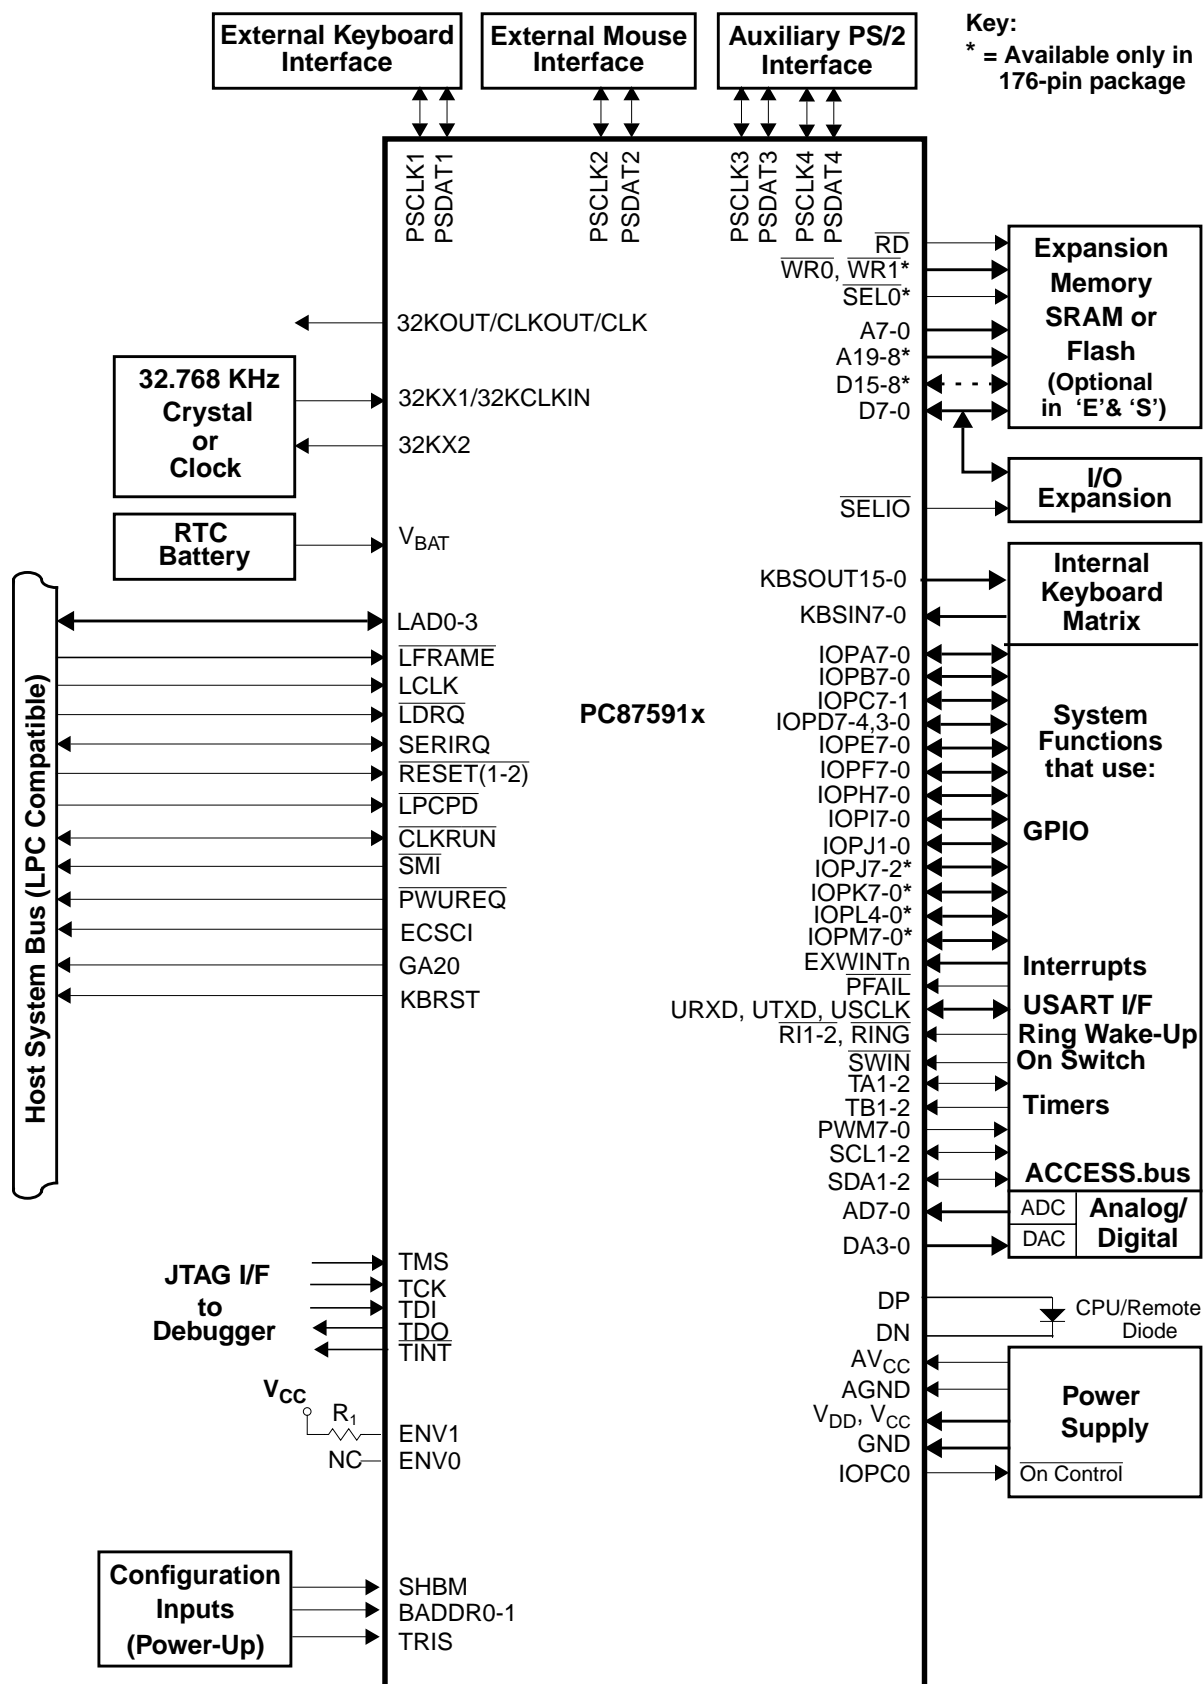

Figure 3. OBD Environment PC87591x System Connection Diagram, 128-Pin and 176-Pin Packages
See Figure 3 on page 31 for a system example in OBD environment. In this environment, the ENV0 and TRIS strap pins are left unconnected, and ENV1 requires an external pull-up resistor. If the flash Contents Protect bit in the protection word is cleared (0), the PC87591x remains reset until the bit is set; see Section 4.16.6 on page 226.